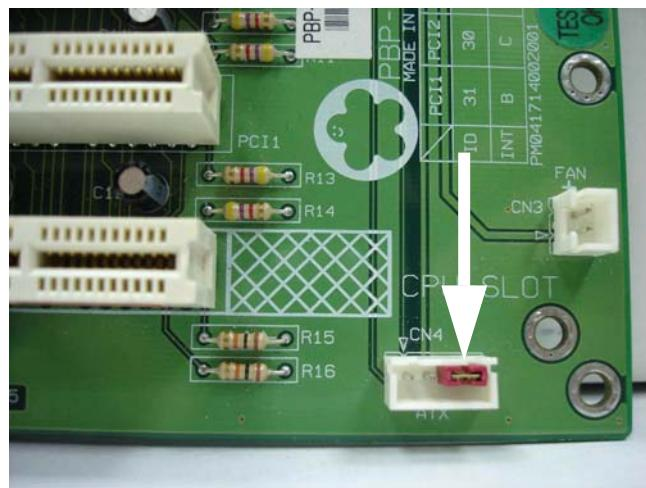

Figure 5-7
Step 1: If you were currently using ATX mode, please remove 4 pins power cable from the 5VSB Header For ATX and from the backplane, and then put a jumper back on pin 3 (PS-ON) and pin 4 (GND) of Backplane ATX P/S control connector. (Figure 5-7) Basically, our backplane products have the default setting to set the jumper on the AT mode.